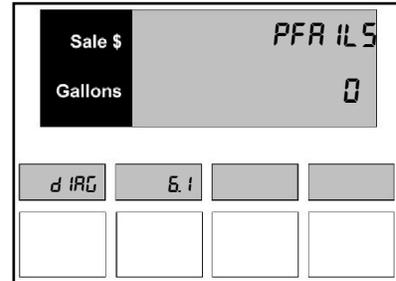

Figure D.6.1 – Power Failure Counter
- a. The display shown in *Figure D.6.1* appears. The PPV display shows the dispenser is in Diagnostics Level 6.1.